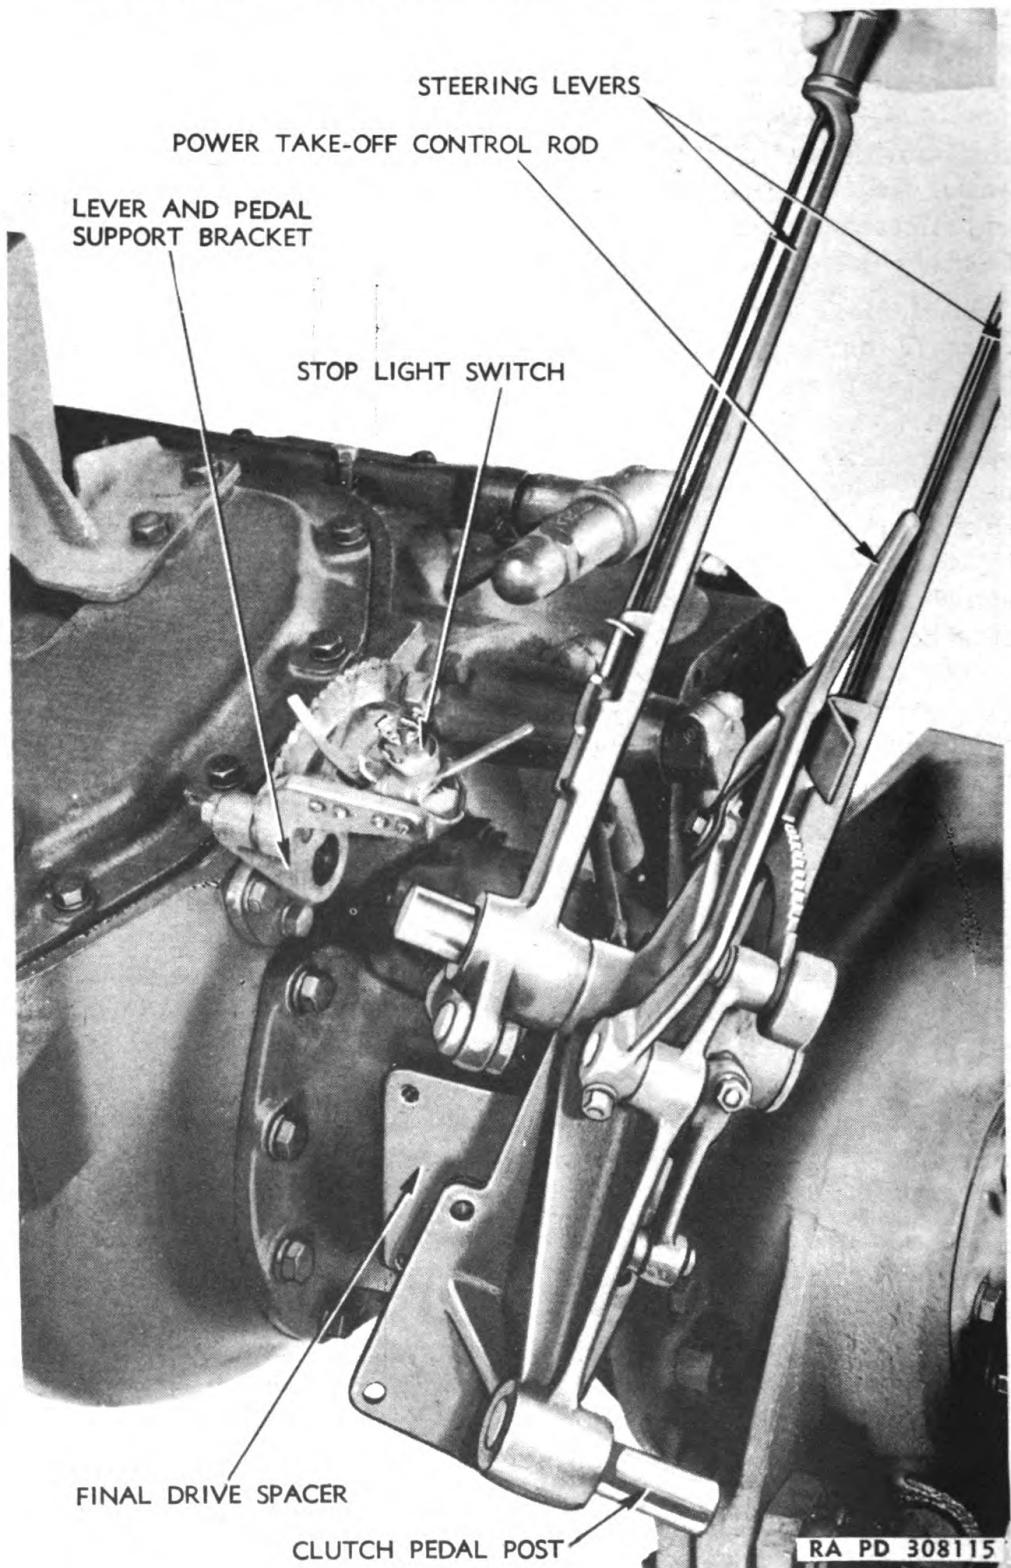
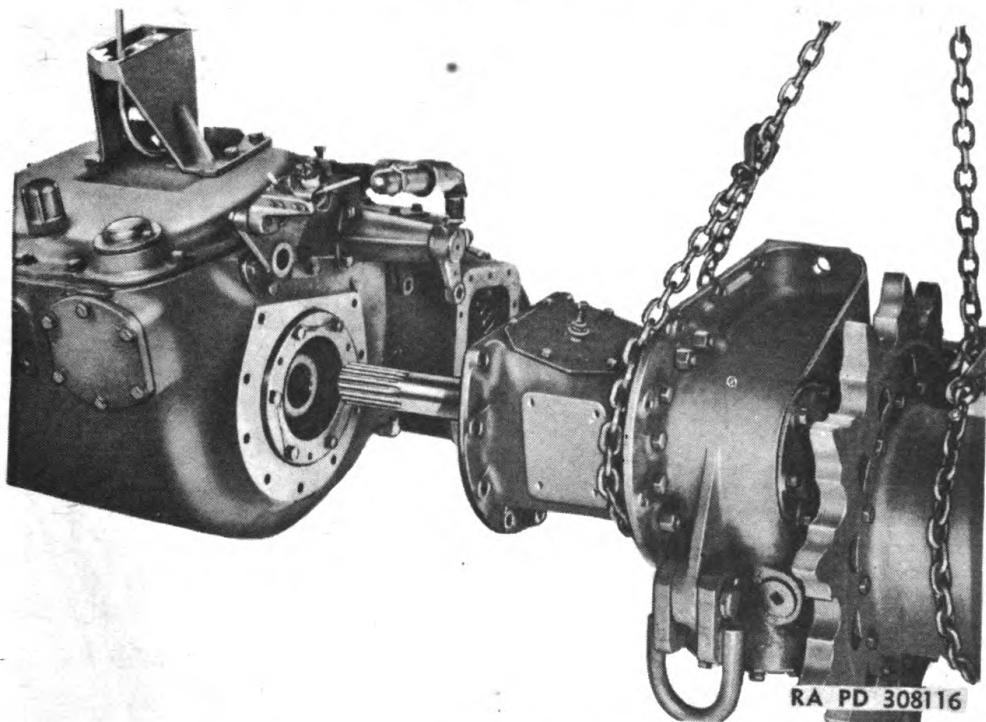

Figure 15 – Removing Steering Lever Assembly
Figure 16 – Final Drive Removal
d. **Remove Final Drive Assemblies.** Slide clutch pedal off post on steering lever bracket. Remove yoke pins to disconnect rear ends of steering brake control rods from levers on control shafts. Remove the four cap screws attaching steering lever bracket to front of final drive spacer. Carefully pull lever assembly sideways to slide lever shaft out of steering lever and clutch pedal support (fig. 15) so that stop light switches will not be damaged in removing lever assembly. Remove nine cap screws that attach final drive spacer to differential case, then, using chain hoist as shown in figure 16 to support the weight, pull final drive and sprocket assembly sideways away from differential. Remove second final drive assembly in same manner.